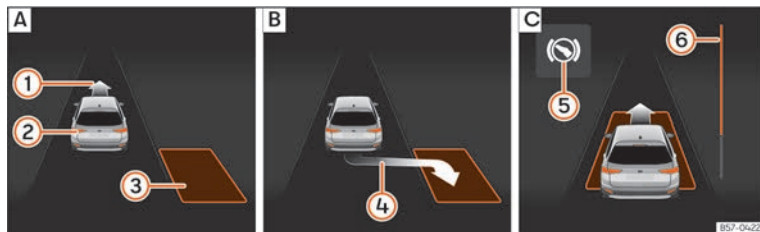
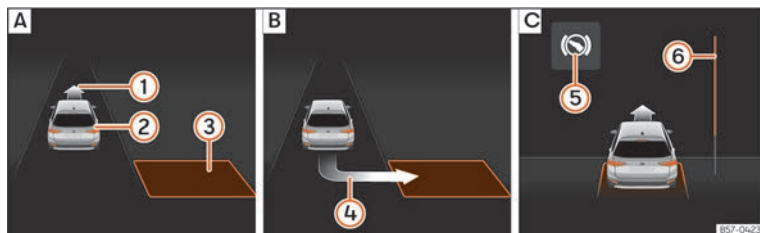

Fig. 188 On the instrument panel display: parallel parking. [A] Finding a parking space. [B] Parking position. [C] Manoeuvring.
Fig. 189 On the instrument panel display: angle parking. [A] Finding a parking space. [B] Parking position. [C] Manoeuvring.
- Look at the display on the instrument panel to see if the space has been detected as “appropriate” and if the correct position for parking has been reached »» Fig. 188 [B] or »» Fig. 189 [B]. The space is considered
- Reverse until the continuous ParkPilot signal sounds; **OR:** reverse until the indication to move forward appears on the instrument panel display » » Fig. 188 [C] or » » Fig. 189 [C]; **OR:** reverse until the **Park Assist finished** message appears on the instrument panel display. The progress bar [6] indicates the distance to cover » » page 273.
- Move forward until the continuous ParkPilot signal sounds; **OR:** move forward until the reverse indication appears on the instrument panel display. The Park Assist system steers the vehicle forward and back until it centres it in the space » » Fig. 188 [C] or » » Fig. 189 [C].
» » Fig. 188 [6] and » » Fig. 189 [6] on the screen of the instrument panel displays the relative distance to be covered. The greater the distance, the fuller the progress bar. When driving forward, the content of the progress bar decreases upwards, and when reversing, it decreases downwards.